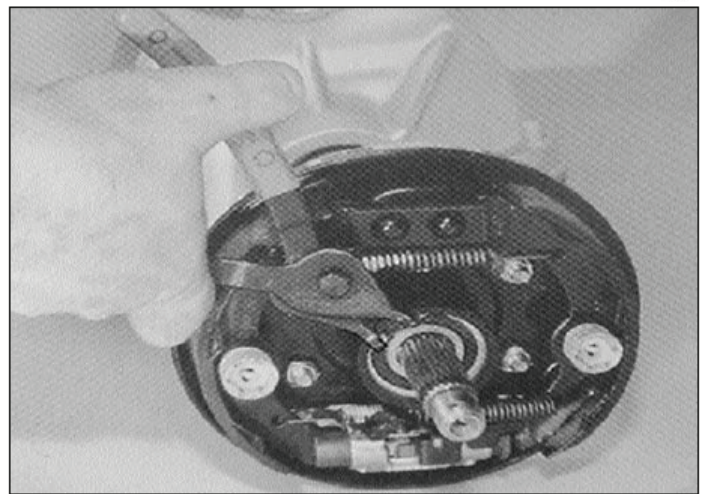

Figure 7-31. Installing Outer Snap Ring
20. Install outer snap ring (25) in each tube (Figure 7-31).
21. Remove fill plug (19) in cover plate (18). Fill axle assembly with 12 ounces (360 ml) of Light Weight Gear Lubricant, SAE 30.